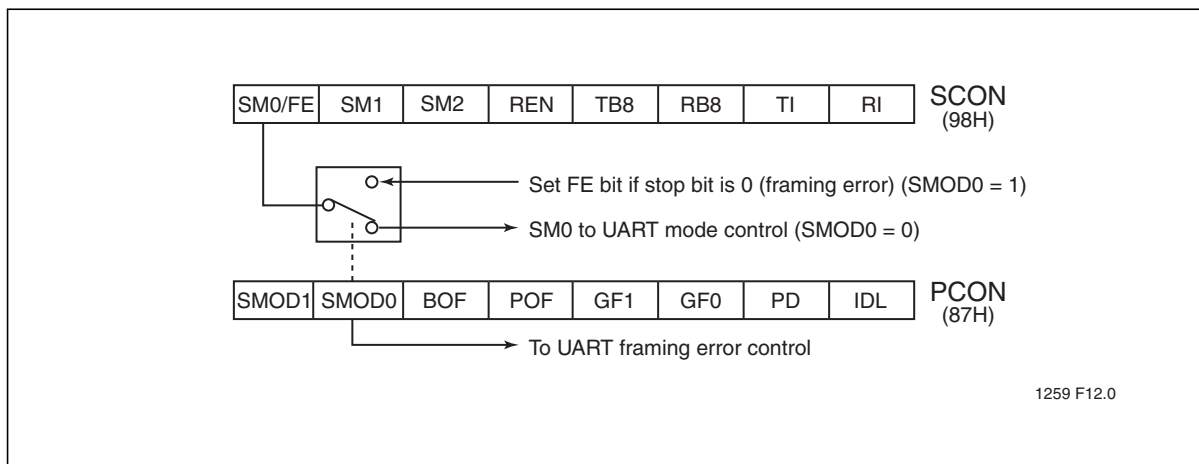
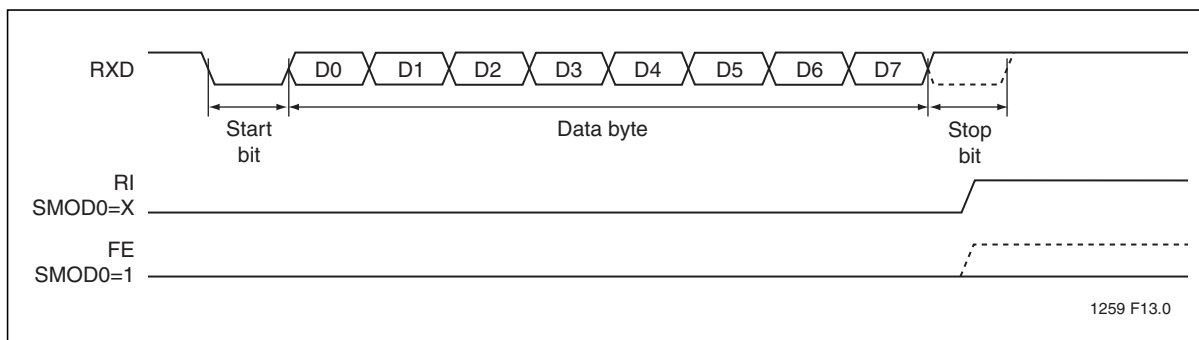
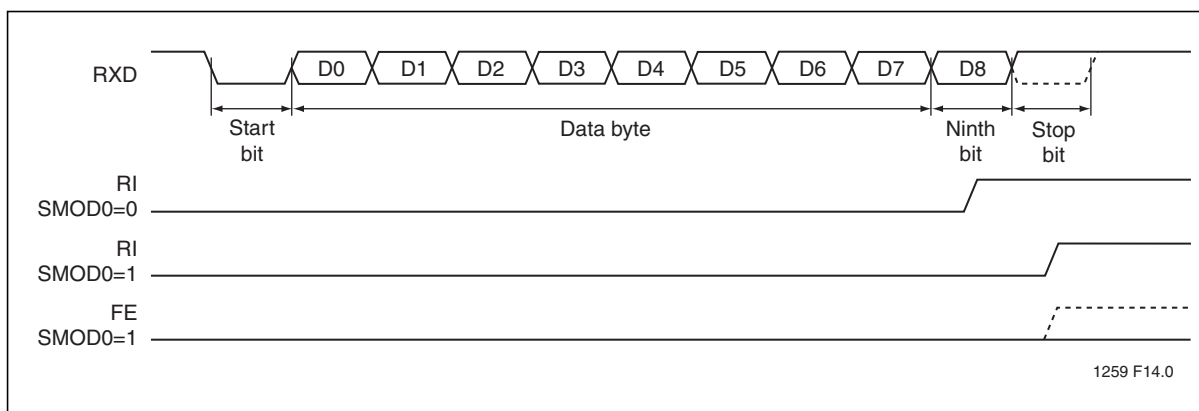

**Figure 7:** Framing Error Block Diagram
**Figure 8:** UART Timings in Mode 1
**Figure 9:** UART Timings in Modes 2 and 3
Framing Error Detection is selected by going to the PCON register and changing SMOD0 = 1 (see Figure 7). If a stop bit is missing, the Framing Error bit (FE) will be set. Software may examine the FE bit after each reception to check for data errors. After the FE bit has been set, it can only be cleared by software. Valid stop bits do not clear FE. When FE is enabled, RI rises on the stop bit, instead of the last data bit (see Figure 8 and Figure 9).